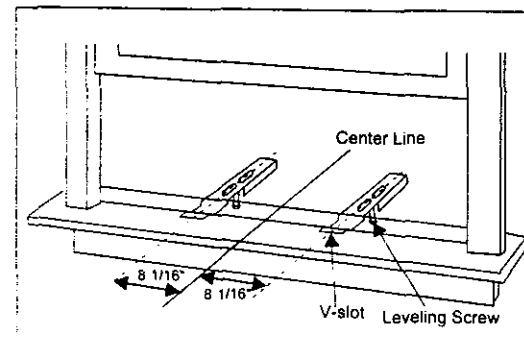
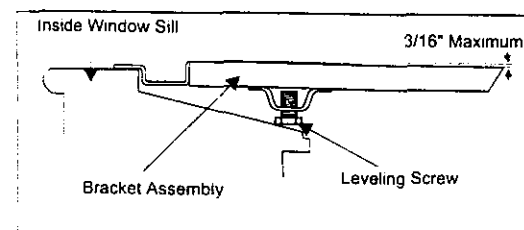

Fig 10
Fig 11
B. Measure the inside window sill width and find the center line as shown in (Fig 10). From this center line, measure $8 \frac{1}{16}$ " on each side and mark these points. Align the V-slot in each bracket on these marks and mount to sill using (2) 3/4" screws provided per bracket. Brackets should be perpendicular to the inside window sill. See (Fig 11).
C. Adjust the **leveling screws** until the bracket tilts no more than **3/16"** downward to the outside. Do not allow the bracket to slant inward as condensation could possibly drip on interior walls and floors. See (Fig 11)